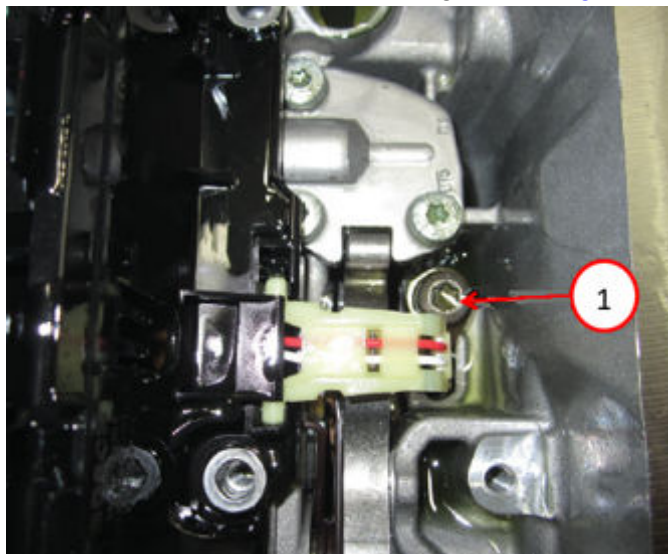

Fig. 47
69. Install the output speed sensor and the bolt in the case and tighten to Fig. 47.